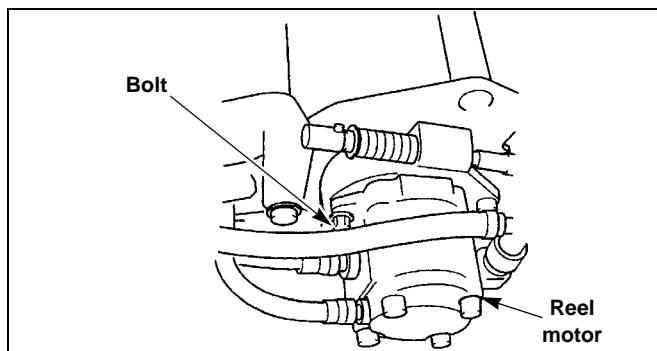

Figure 4-41
2. Remove the bolts tightening the reel motor and remove the reel motor. Figure 4-41